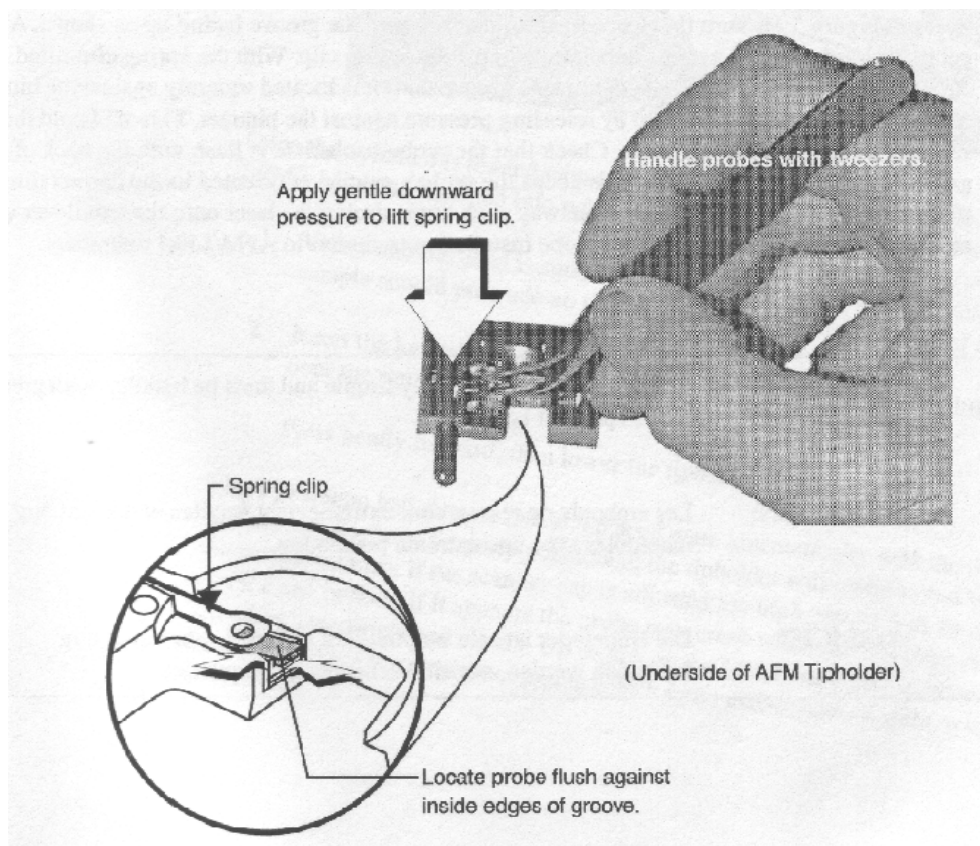

Figure 2
- Mount the tip on the support holder (see Figure 2). You can check with the monocular if the tip is in a good shape.